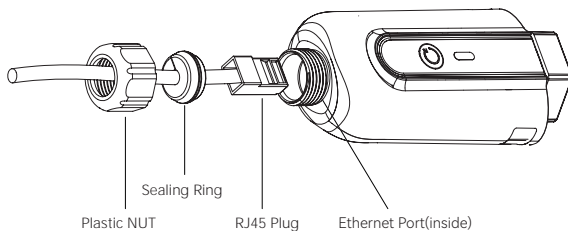

Figure 2-1
Step2: Pass the network cable plug through the "Plastic Nut" and "Sealing Ring" (with opening) in the direction as shown in the figure 2-1.